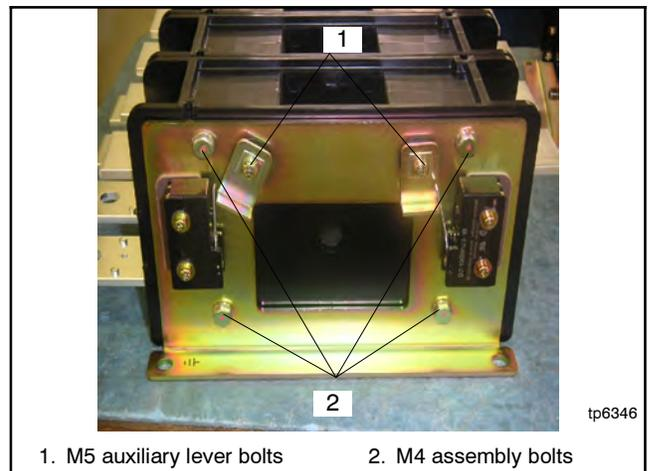

Figure 7-20 Bolts
3. Loosen the M6 bolts (4) and separate the mechanical unit from the current-carrying unit. See Figure 7-20.
4. Loosen M5 bolts (2). Remove AUX lever.